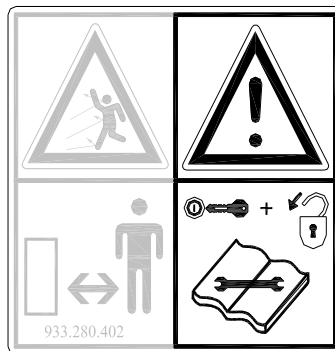
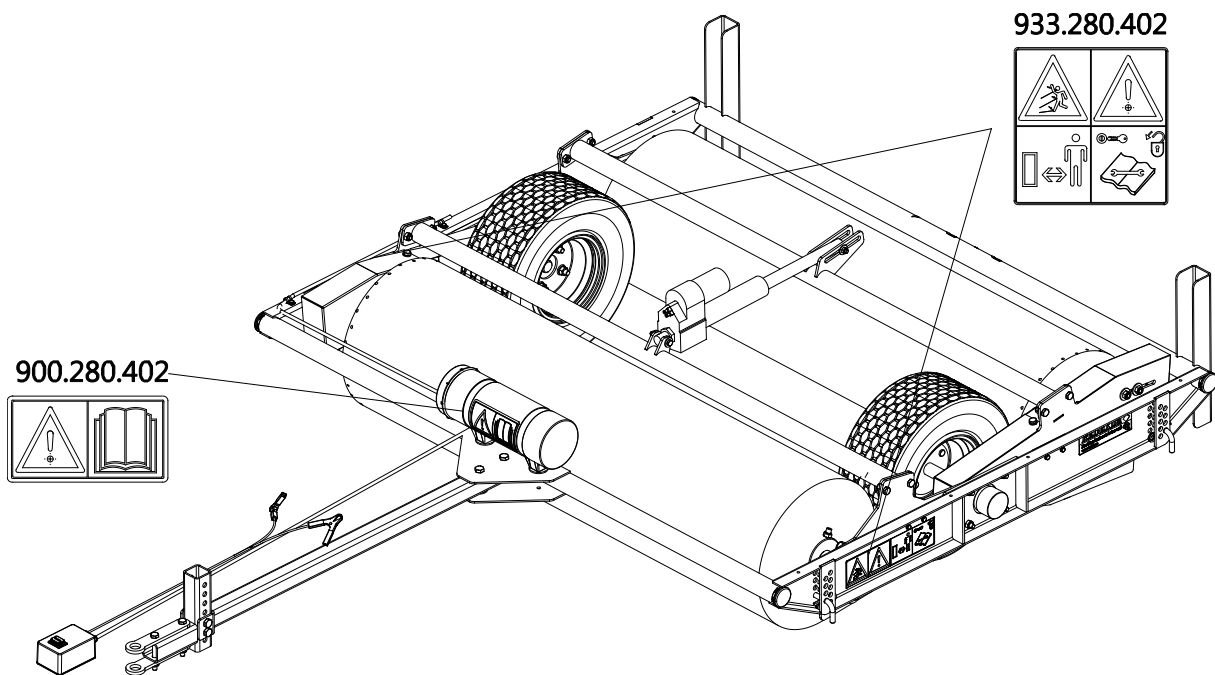

Figure 2
Figure 5
Always switch off the tractor motor and take the tractor's key out of the ignition in carrying out maintenance, adjustments and repairs (Figure 2).
Safety stickers (Figure 2, 3 and 4) with an identical meaning are attached to both sides (Figure 5) of the Speed-Brush. These safety stickers must always be clearly visible and legible and must be replaced if they have become damaged.
7. Location of the safety stickers (Figure 5).